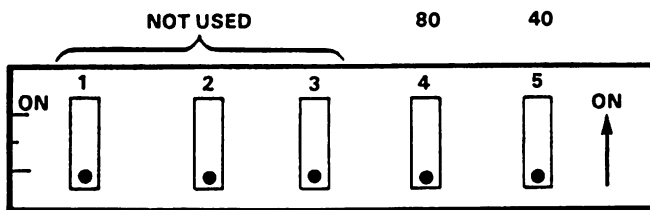

Figure C-2 Device Address /00
- a. To set the address at /00 -- Place all switches in the OFF position. Refer to Figure C-2. An address of /00 indicates the primary terminal processor, which controls Terminals 1-4.